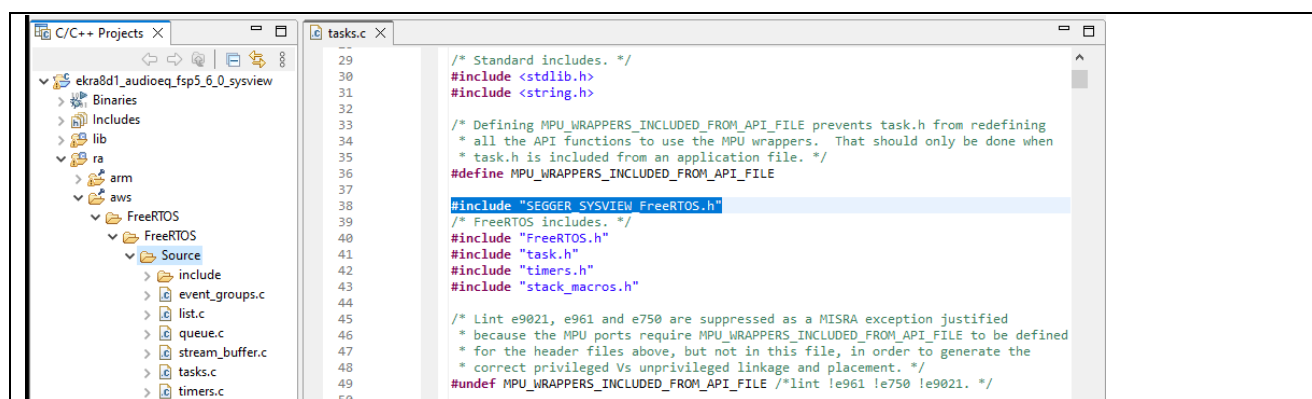

Figure 31. SystemView Integration
- Be sure to place #include "SEGGER_SYSVIEW_FreeRTOS.h" before #include "FreeRTOS.h" in all the affected files. See Figure 31. SystemView Integration